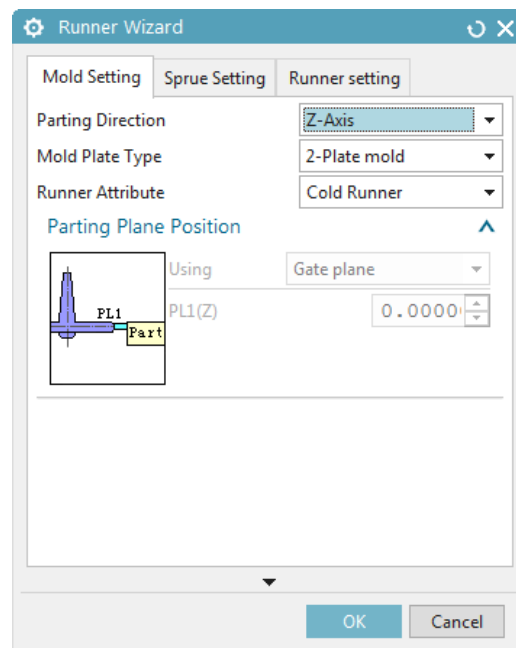

Figure 16-76 The Runner Wizard dialog box
1. Choose the **Runner Wizard** tool from the **Wizard** group; the **Runner Wizard** dialog box is displayed, refer to Figure 16-76.
5. Choose the **OK** button to close this dialog box, refer to Figure 16-76.